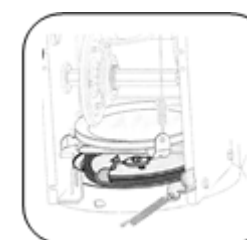

Figure 20
4. Slip the drive belt off the pulley and between friction wheel and friction wheel disc. See Figure 20.